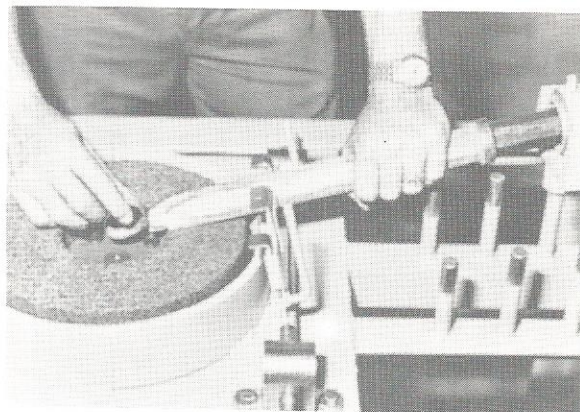

fig. 7
5. Adjust the position of the moil point tip on the grinding wheel. The tip of the moil point should reach approximately 1/2" over the edge into the hole in the center of the grinding wheel. A simple gauge can be used (see fig. 7).